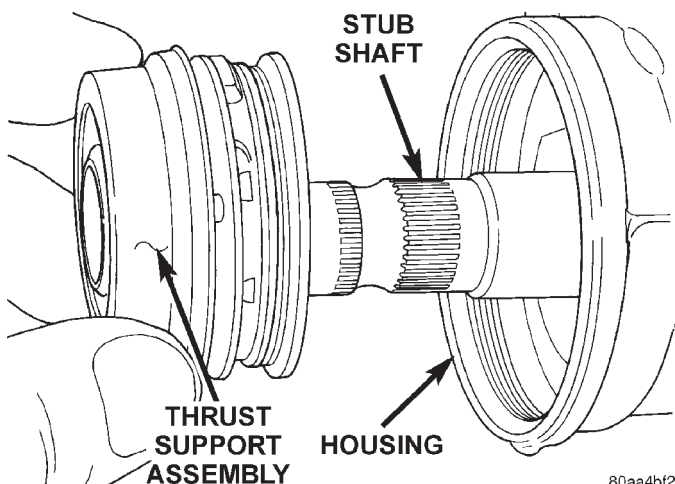

Fig. 10 Thrust Support Assembly
- (2) Remove adjuster nut with Spanner Wrench C-4381.
- (3) Remove thrust support assembly out of the housing (Fig. 10).